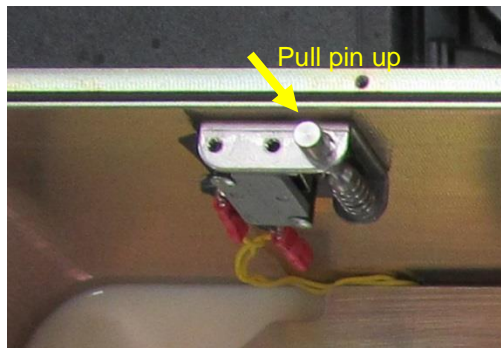

Figure 3-3: The Cover Interlock Switch
1. Pull the pin up to disable the cover interlock switch. See **Figure 3-3**.
1. Locate the access holes for high-reflection (HR) and harmonic mirrors (HM). Notice the positions of HR and HM mirrors with respect to the direction of the laser output in Figure 3-3.
1. Locate the access holes for high-reflection (HR) and harmonic mirrors (HM). Notice the positions of HR and HM mirrors with respect to the direction of the laser output in **Figure 3-3**.
4. The screws for the adjustments of the vertical tilt angle and the horizontal tilt angle are illustrated in **Figure 3-3**.